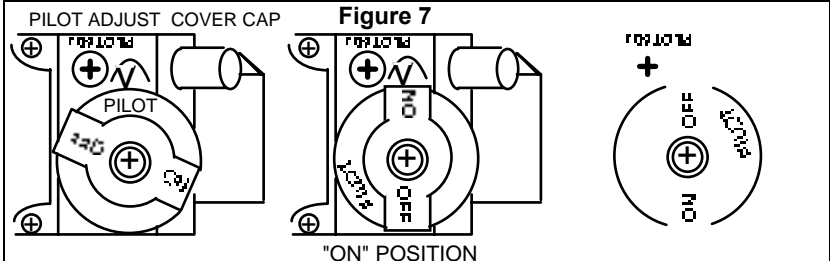

Figure 7
- **Primary Gas Valve Control Knob (Switch Models):** Pilot Lighting and Valve gas output adjustment from OFF to FULL. See Figure 7
4. Depress and turn **Primary Gas Valve Control Knob** counter clockwise to the "PILOT" position. (Figure 7)
NOTE: Flame size at the burner is adjustable at the **Primary Gas Valve Control Knob** (see Figure 7).
For complete shutdown (including Pilot), place **Control Selector Switch** in the "OFF" position and push **Primary Gas Valve Control Knob** (Fig 7) in and turn fully clockwise to "OFF".
Pilot Flame Adjustment. Pilot flame should be steady and soft blue extending approx. 1 inch beyond the pilot tube. If adjustment is necessary, use a narrow long stem screw driver to turn pilot adjustment screw (see **Figure 7-Switch** or **Figure 8-Remote**). To adjust turn clockwise for less pilot flame, counterclockwise for more pilot flame. There is no pilot adjustment available on C7 or DFC7 Manual Models.